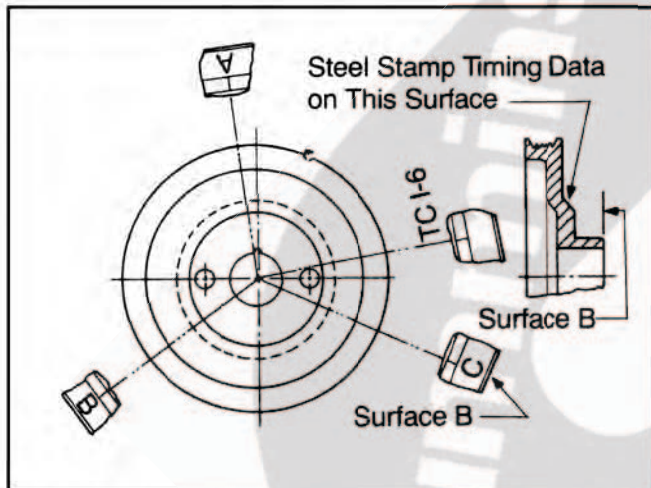

Fig. 2-25, (K11920). Accessory drive pulley marking — KT/KTA19
2. Remove capscrews, washers, cover, screens and baffle if used, from the breather body. Fig. 2-25.
1. Bar the engine in the direction of rotation until "B" mark on the pulley, Fig. 2-25, is aligned with pointer on the gear case cover. In this position, both valve rocker levers for cylinder No. 3 must be free (valves closed). The injector plunger for cylinder No. 6 must be at top of travel; if not, bar the engine 360 degrees, realign the marks with the pointer.